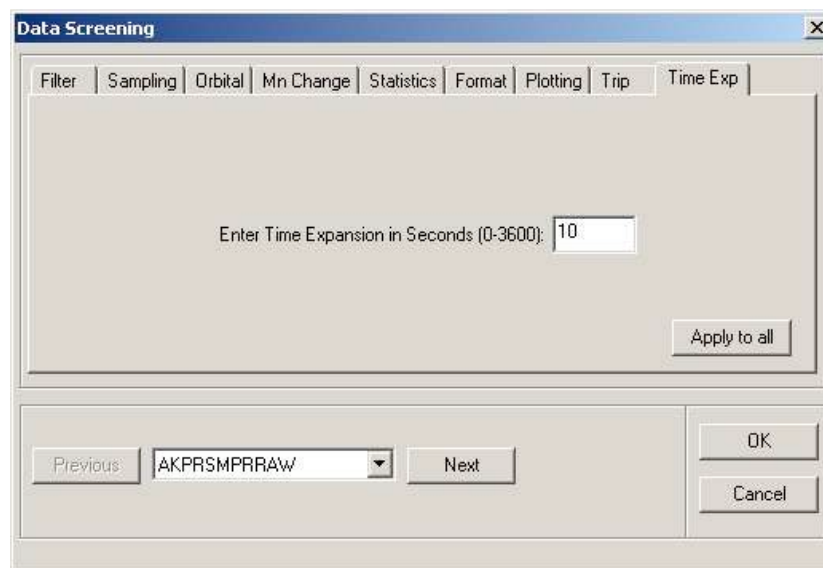

Figure 78: Time Expansion Setting
- Select the "Time Exp" tab of the Data Screening IDF Editor window (see Figure 78)